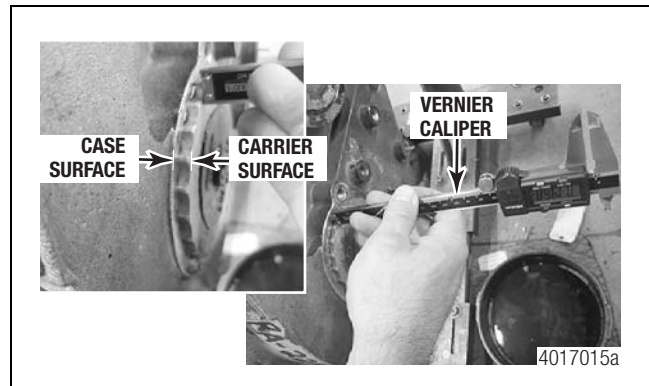

Figure 13
3. At this time use the Vernier caliper to verify that the carrier depth measurement is within 0.039" (1 mm) of your original reference measurement. If the carrier is not within 0.039" (1 mm) of the original depth reference, remove the adjustable bearing carrier and reinstall. Figure 13.